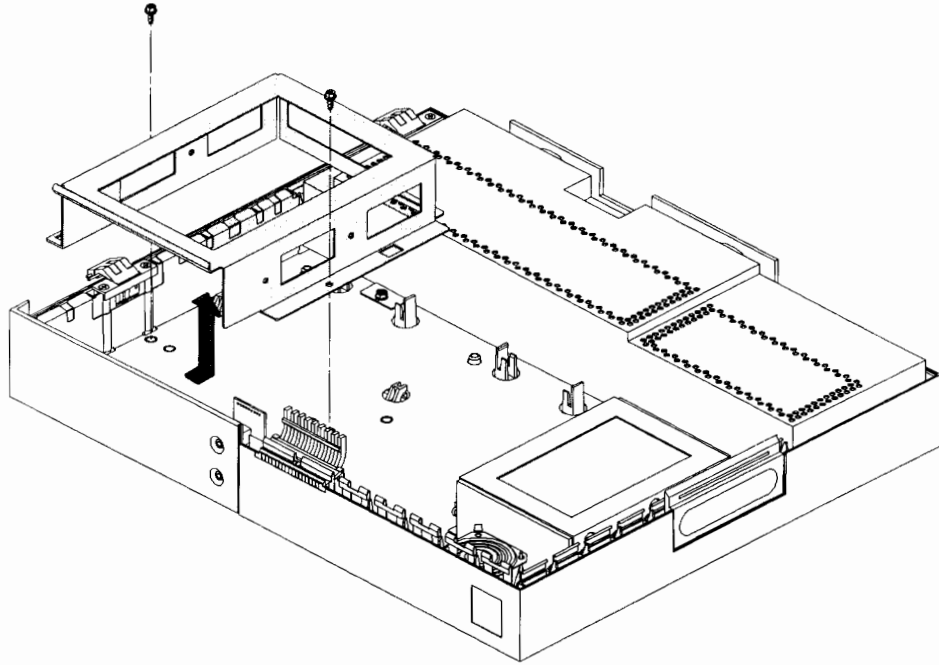

Figure B-7. Removing the Empty Bracket
3. Remove the empty bracket from the chassis by removing the two screws, sliding the bracket back, and lifting it up, as shown in Figure B-7.